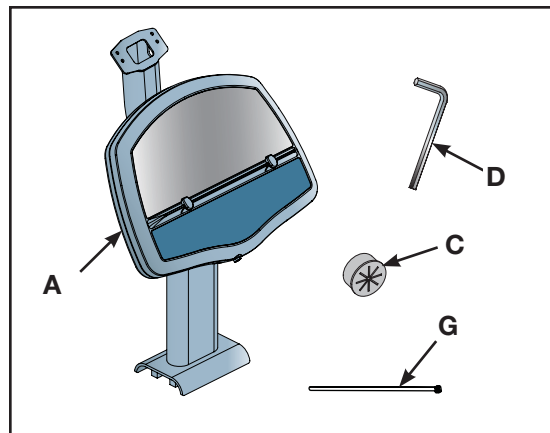
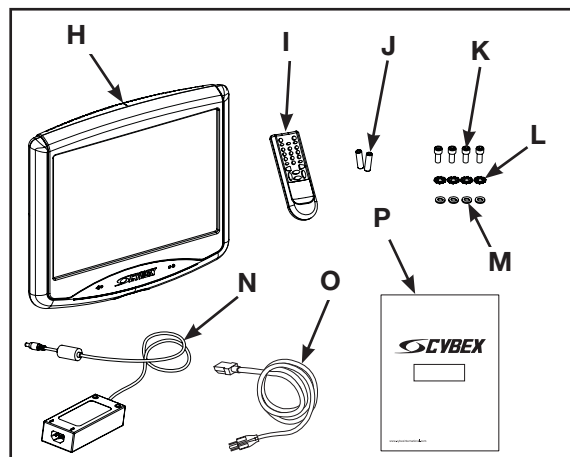
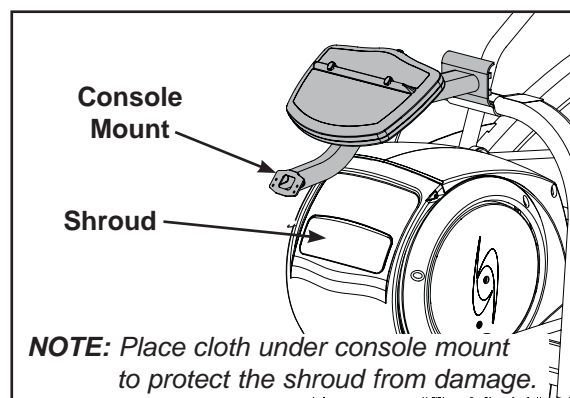

Figure 17
Figure 18
Figure 19
2. Verify the kit contents shown in Figure 17.
- A. Console with monitor mount (1), 630A-220
- B. Coax and power cables (1), 630A-104 (in Arc frame)
- C. Strain relief bushing (1), PP740000
- D. 3 mm Allen wrench (1), BK030210
- E. Poster (1), 630A-384 (not shown)
- F. Warranty sheet (1), LT-20219 (not shown)
- G. Cable tie (2), EW000028
3. Verify the monitor kit contents shown in Figure 18.
- H. Monitor (1), EE000005 or EE000007
- I. Remote control (1), EM000000
- J. Batteries, Remote control, AAA size (2), N/A
- K. Screws, Mounting, M4 x 0.7 x 10 mm (4), HC692860
- L. Washers, External Lock, (4), HS047300
- M. Washers, Flat, M4 (4), HS097600
- N. AC/DC Adapter (1), ET300038
- O. Power cord, 115 VAC 60 Hz, (Country specific cords supplied with product), (1), EW600000
- P. Personal Entertainment Monitor Manual (1), LT-20191
- A. Lay the console mount on the Arc Trainer as shown in Figure 19. **NOTE:** This will allow easier access to route the cable assembly.